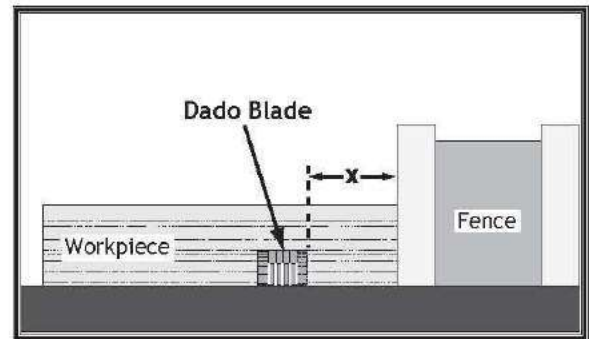

Figure 60. Example of a dado being cut with a dado blade.
Commonly used in furniture joinery, a dado is a straight channel cut in the face of the workpiece. Dadoes are "non-through" cuts that can be made with a dado blade or a standard saw blade. **Figure 60** shows a cutaway view of a dado cut being made with a dado blade.
3. Adjust distance between fence and inside edge of blade, as shown in Figure 60 on Page 43, to dado length of a workpiece.